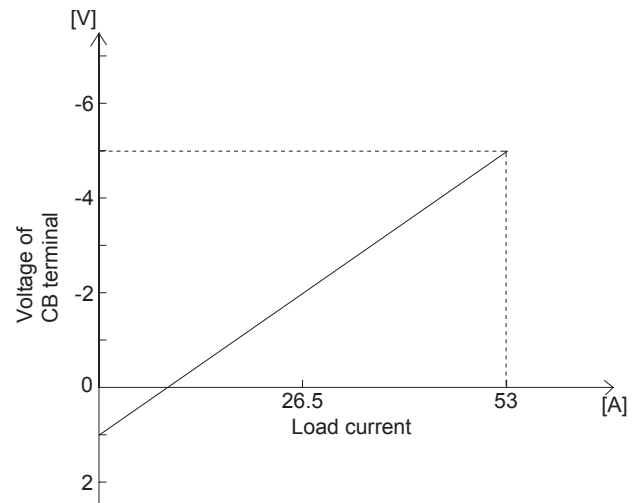

Fig.7.1 Load current conversion graph (PDA600F-12)
■ Fig.7.1 shows the relationship between the voltage of the terminal CB and the output current.
Fig.7.1 shows a typical characteristic of PDA600F-12. Please contact us for the characteristics of the other models.
The output current shown in Fig.7.1 should be used only as a guide.